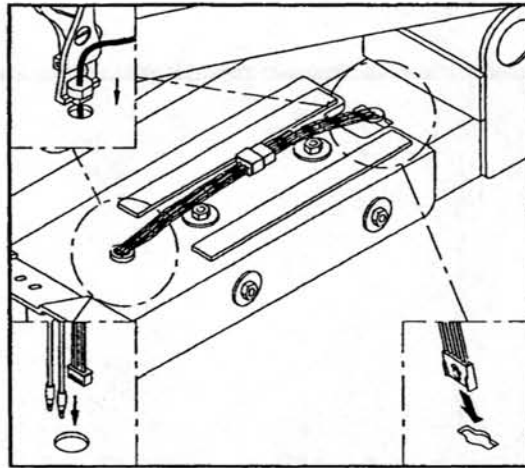

Fig.4-4
1. Place a new 6 PIN CABLE inserting through the FRAME and plug into the sockets (see fig 4-4).